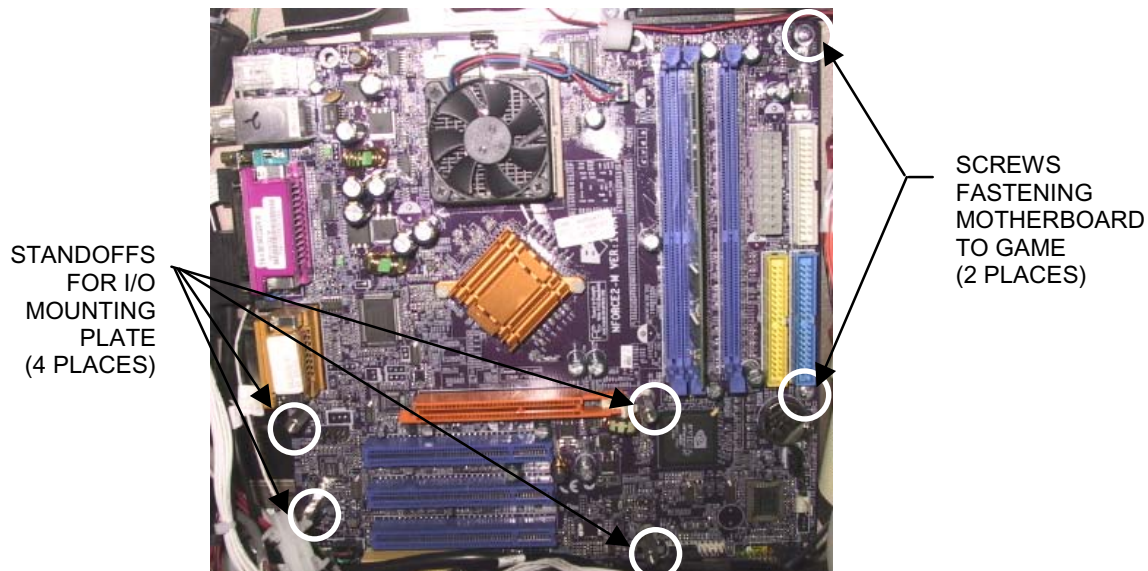

FIGURE 3 - ECS MOTHERBOARD ASSEMBLY
5. Remove the 2 screws securing the motherboard assembly to the game, located on the right side of the motherboard. See Figure 3.
6. Disconnect all connections to the motherboard, then carefully remove the board. Remove the 4 standoff and hex nuts that were supporting the I/O mounting plate (see Figure 3). Place the motherboard into an anti-static bag for storage. **NOTE: Be sure to read the Motherboard Handling Precautions before handling the board.**
1. Secure the 4 standoffs for the I/O mounting plate to the new motherboard with the hex nuts. Situate the motherboard on top of the fish paper, and secure with 2 mounting screws inserted on the right side of the board. See Figure 3.